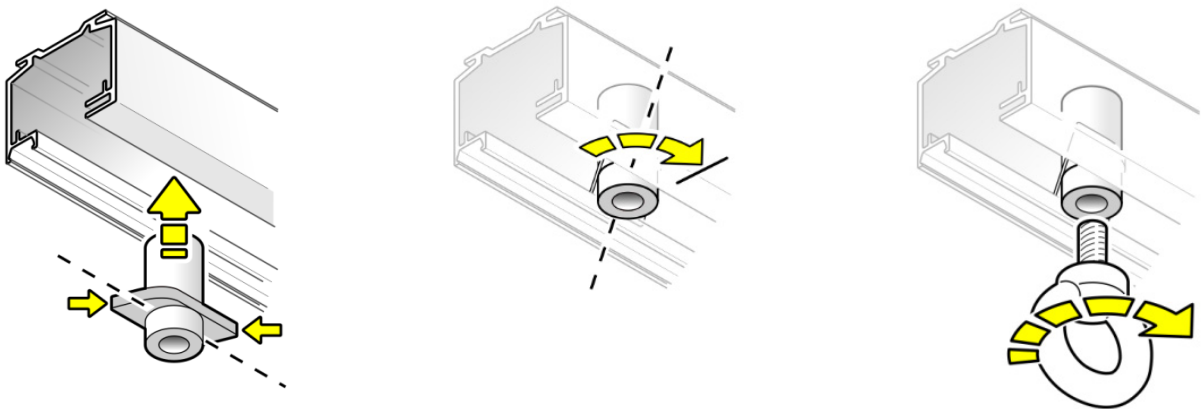

Figure 8. Installing a retaining collar and safety cable
2. See Figure 8. Note the flanges (arrowed) on the sides of the retaining collar that is supplied with the luminaire.